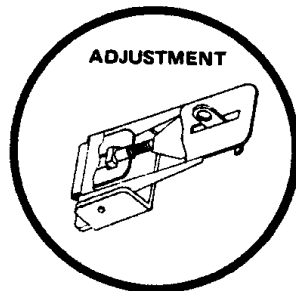

FIG. 3
8. Release the four "Top" latches. (See Figure 3.)